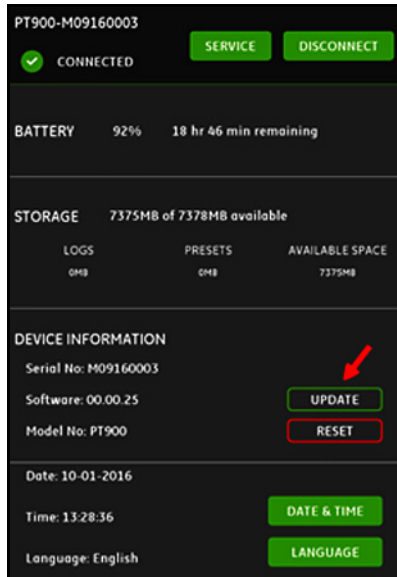

Figure 121: UPDATE Button in TRANSMITTER Menu
4. In the APP TRANSMITTER menu, click the **UPDATE** button (see *Figure 121* below) to start the update.